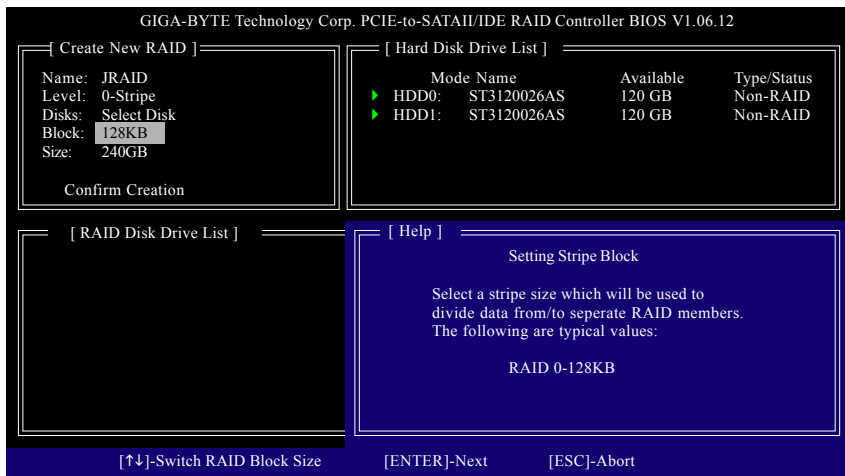

Figure 7
**4. Set Block Size (only for RAID 0):** Under the **Block** item, use the UP or DOWN ARROW key to select the block size (Figure 7), ranging from 4K to 128K. Press ENTER when finished.